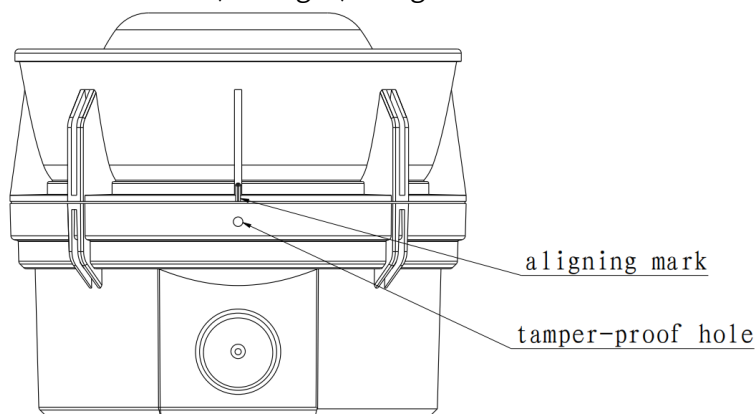

Fig.7
- (2) Wiring requirement: It is advisable to use RVS twisted pair with a cross-sectional area of  $\geq 1.0 \text{ mm}^2$ .
- (3) Tamper-proof function: If the Sounder Beacon siren needs to be tamper-proof, it needs to be secured in the tamper-proof holes on the base (see Fig. 7) using an ST2.9 x 6.5 screw.